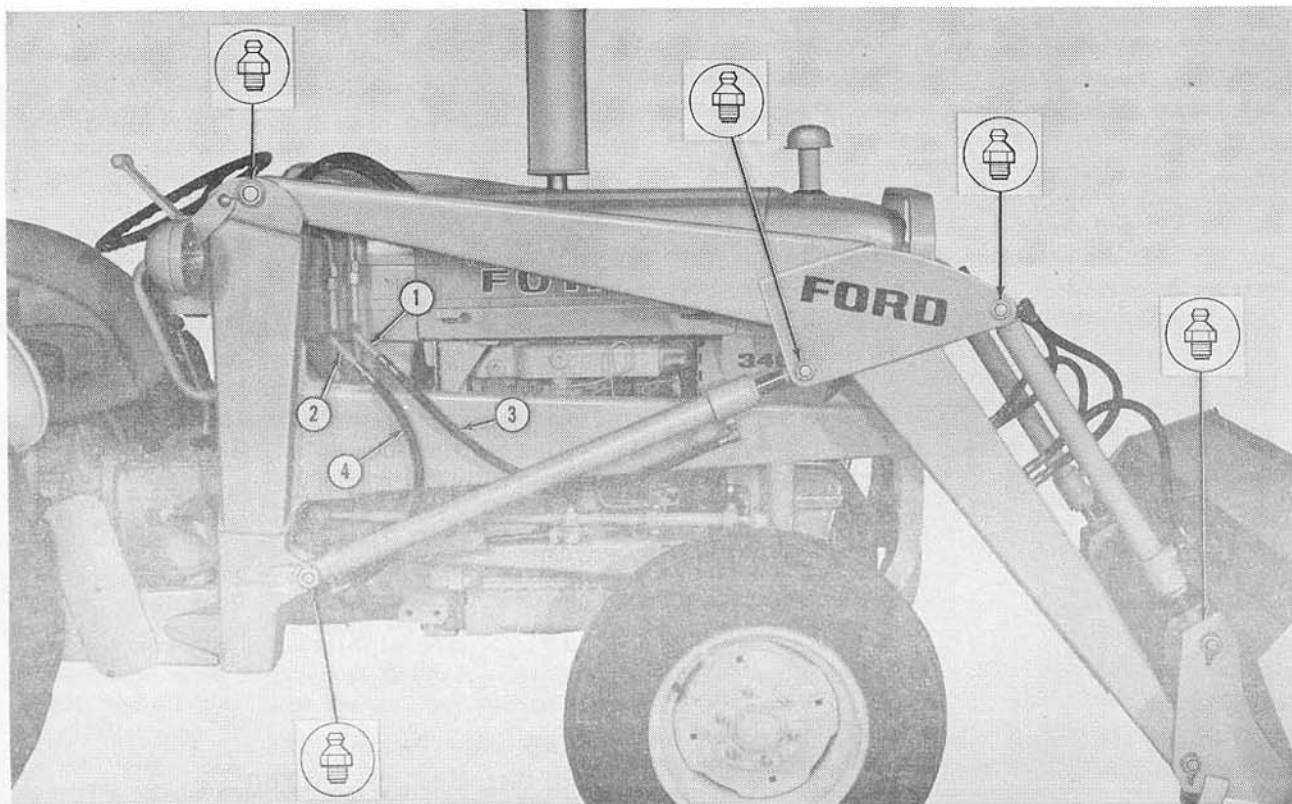

Figure 4
The loader is lubricated through ten lubrication fittings. Figure 4 shows the fittings on one side of the loader; fittings will be found in the same locations on the other side of the loader.
Non-Self-Leveling Loaders: Be sure the hose assembly (4), Figure 4, from the piston end of the right-hand lift cylinder, is connected to the lower hydraulic tube (2), and the hose assembly from the rod end of the cylinder (3), is connected to the upper hydraulic tube (1).